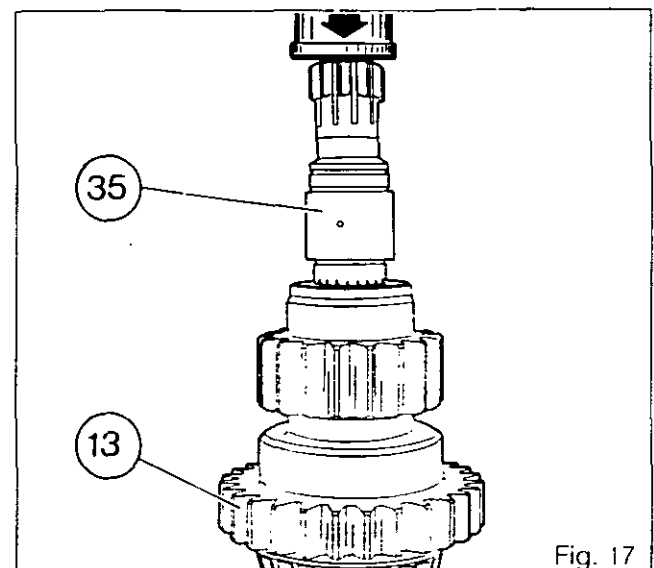

Fig. 17
109. Withdraw the pinion (13) and assemble on the shaft (35) (Fig. 17). Mount the washer (5) and bolt /6\.